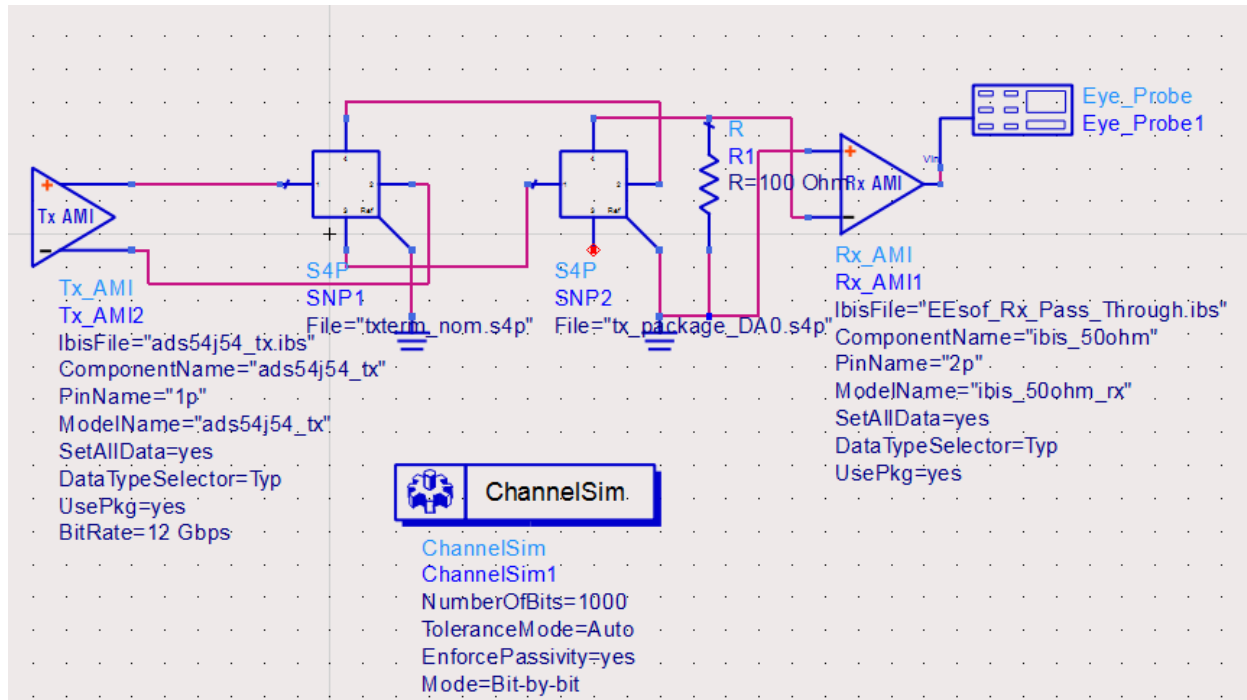

Figure 1. Schematic for ADS
7. Create the schematic as shown in Figure 1 above